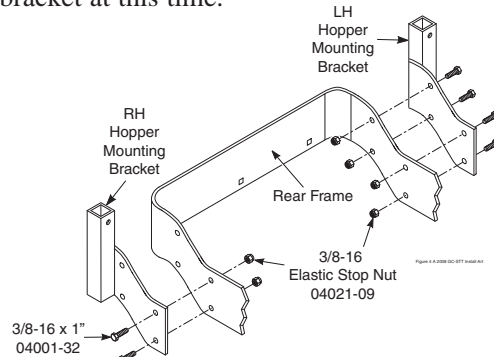

FIGURE 3-6
12. Install the LH & RH hopper mounting brackets to the outside of the frame on the rear of the machine and secure using six (6) 3/8-16 x 1" hex head bolts, and six (6) 3/8-16 elastic stop nuts. See Figure 3-6. Do Not install mounting hardware in the rear holes provided in the RH hopper mounting bracket at this time.